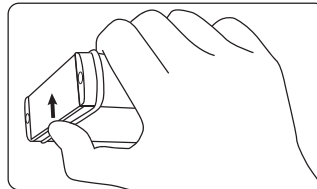

Fig. 3-4: Releasing the lock
- ☞ Press against the hinge lightly from below (see Fig. 3-4).